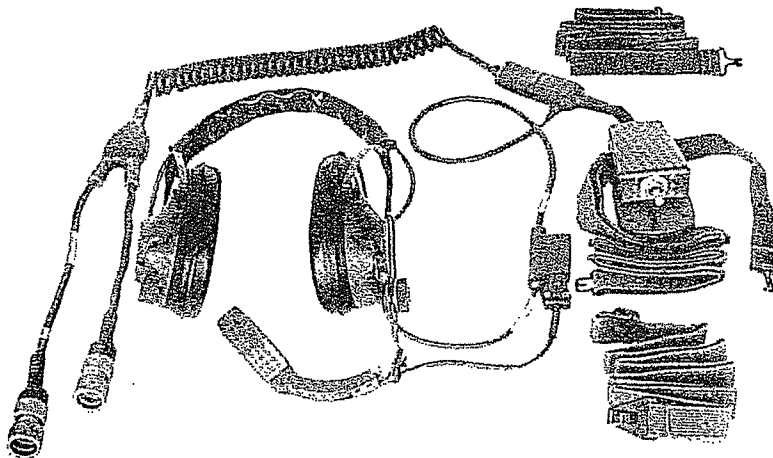

Figure 1-14. Headset H-161A/U
b. Headset H-161A/U (fig. 1-14)